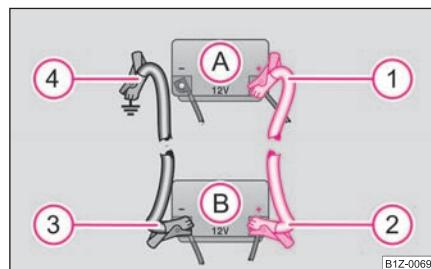

Fig. 166 Jump-starting using the battery from another vehicle:
- Attach one end **(1)** to the positive terminal ⇒ page 173, fig. 166 of the discharged battery **(A)**.